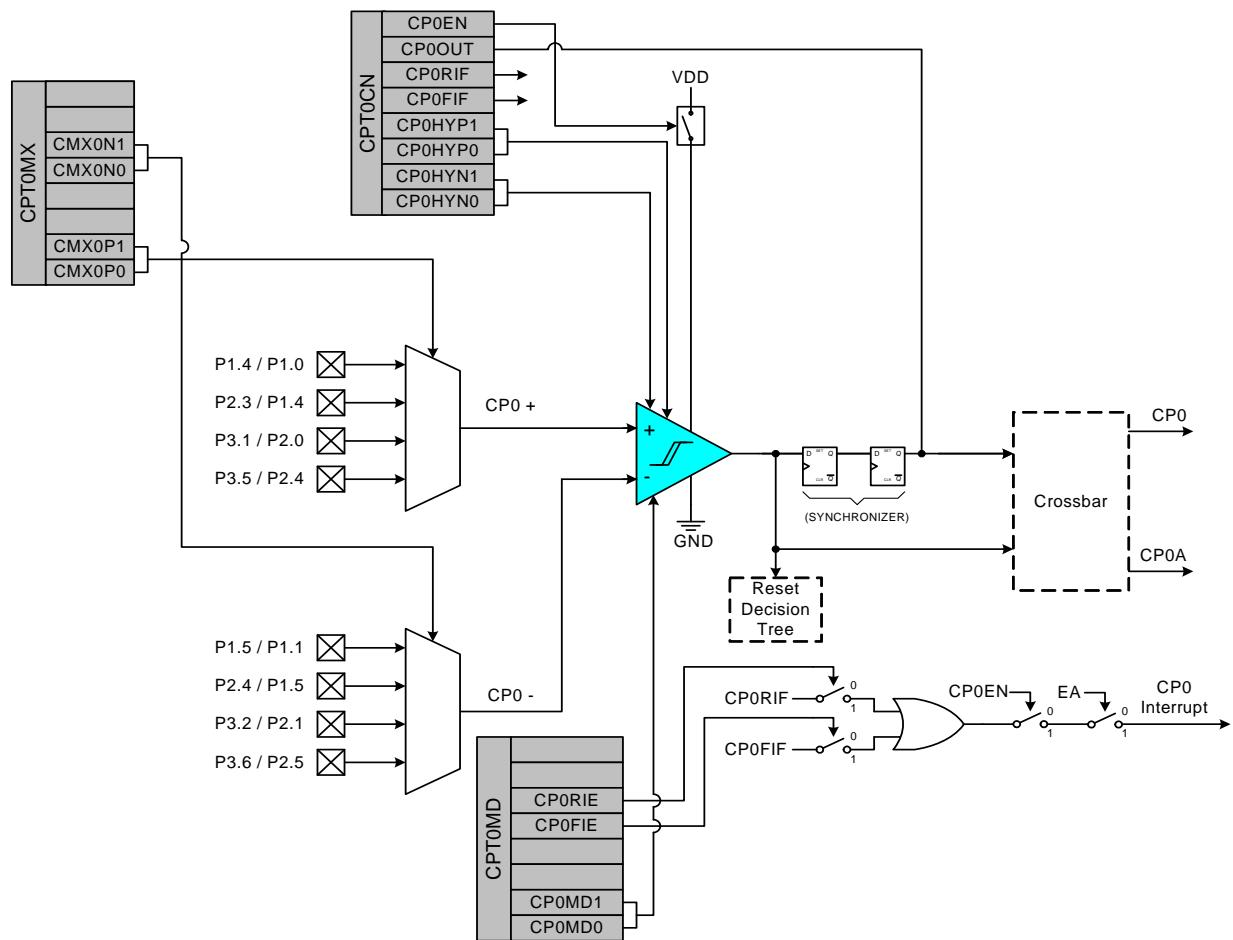
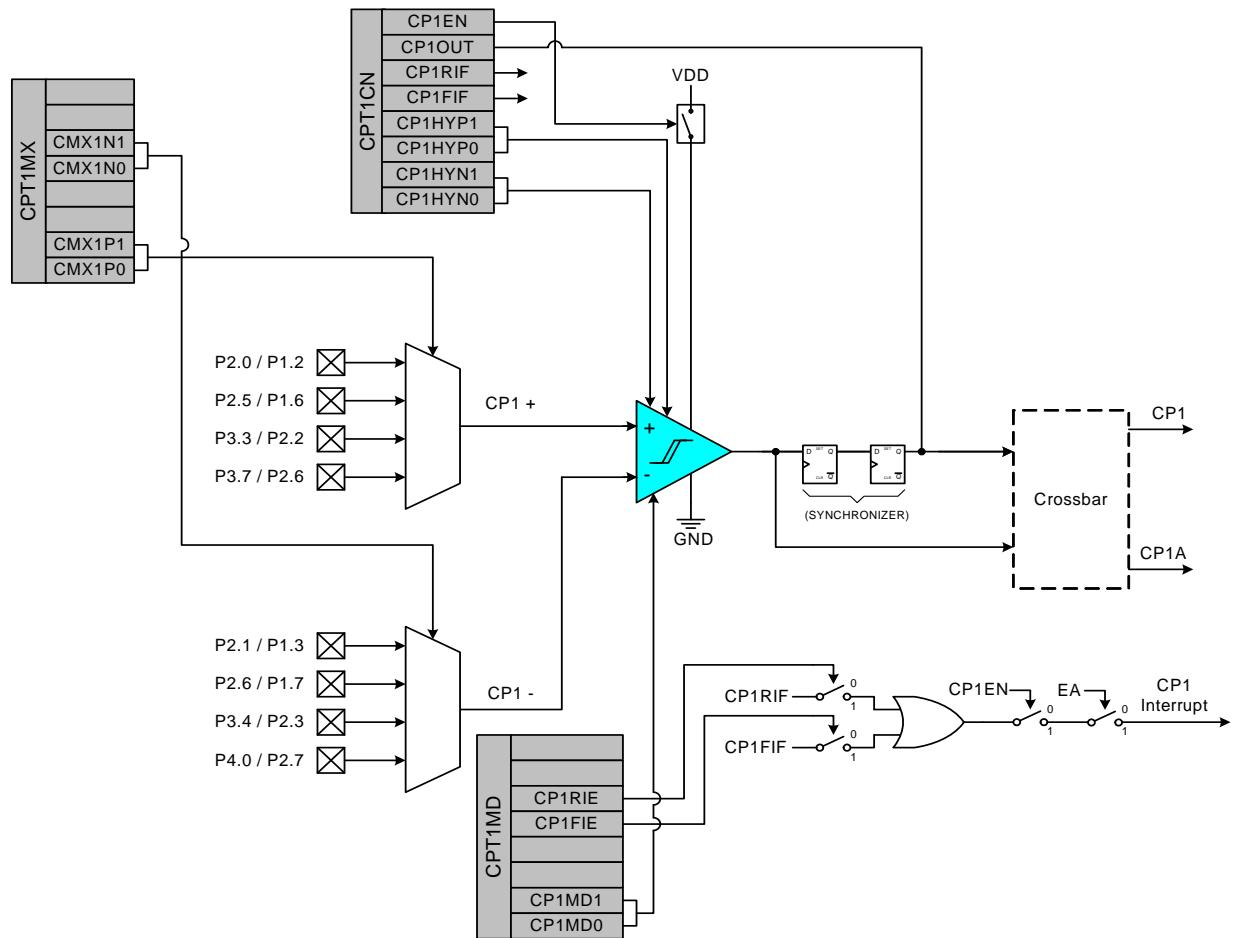

Figure 1.12. Comparator0 Block Diagram
Figure 1.13. Comparator1 Block Diagram
Comparator interrupts may be generated on rising, falling, or both edges. When in IDLE mode, these interrupts may be used as a “wake-up” source. Comparator0 may also be configured as a reset source. Figure 1.12 shows the Comparator0 block diagram, and Figure 1.13 shows the Comparator1 block diagram.
**Note:** The first Port I/O pins shown in Figure 1.12 and Figure 1.13 are for the 48-pin (C8051F360/3) devices. The second set of Port I/O pins are for the 32-pin and 28-pin (C8051F361/2/4/5/6/7/8/9) devices. Please refer to the CPTnMX registers (SFR Definition 8.2 and SFR Definition 8.5) for more information.